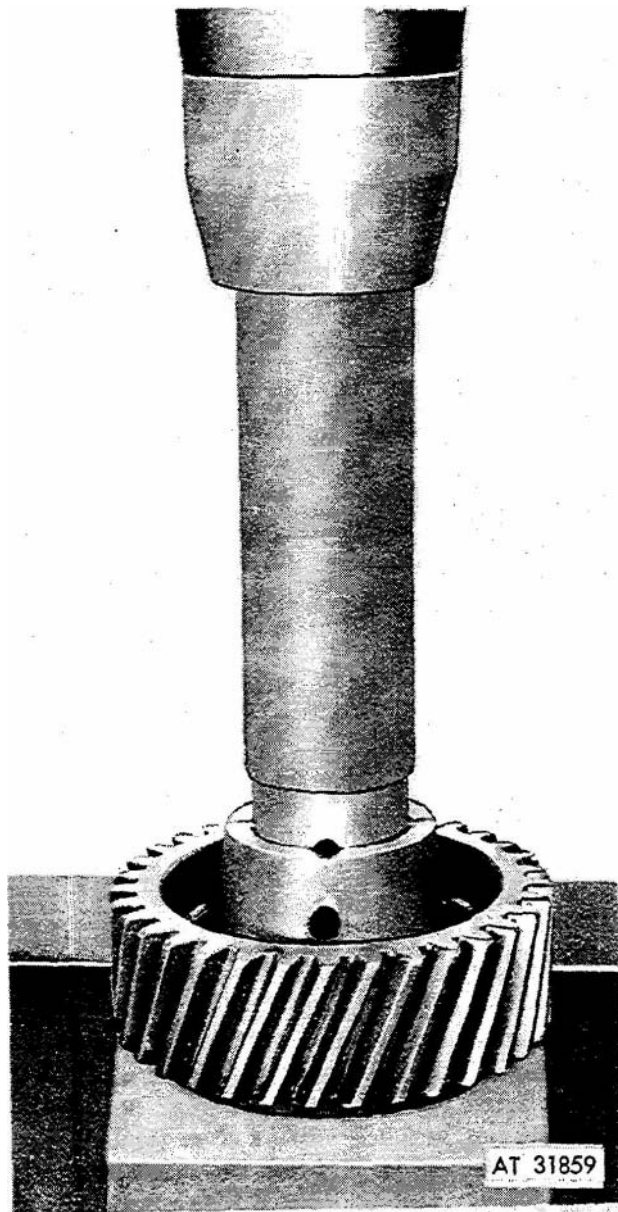

Figure 3-63. Pressing bushing into input gear.
(2) Align lubrication holes in bushing (25, fig 3-47) with holes in input gear (24) and press bushing into gear (fig 3-63).